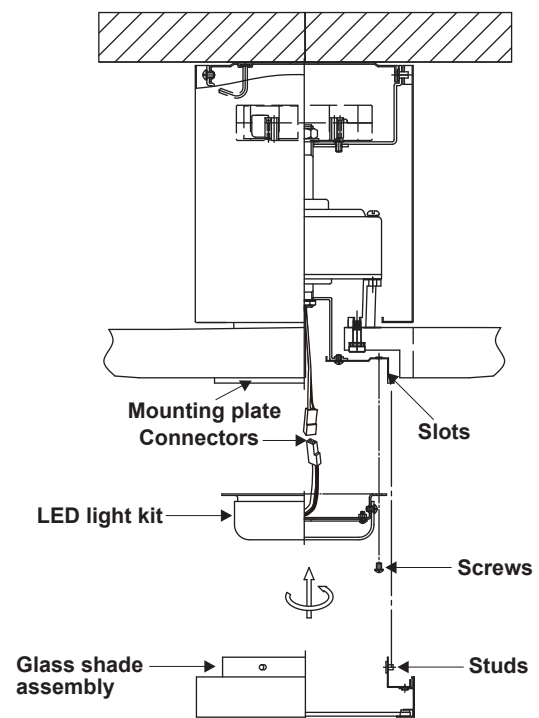

Figure 12
3. Place the key holes from the light kit over the 2 screws previously loosened from the mounting plate, turn the light kit until it locks in place at the narrow section of the key holes. Secure by tightening the 2 screws previously loosened and the one previously removed. (Fig. 12)